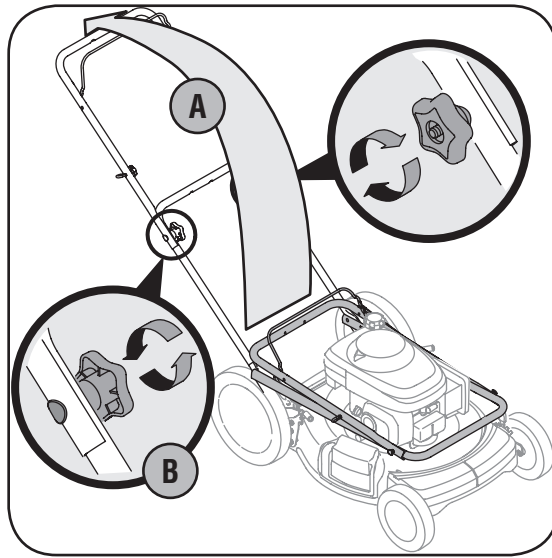

Figure 3-1: Unfold handle, tighten hardware.
- a. Pull up and back on upper handle as shown in Figure 3-1. Make certain the lower handle is seated securely into the handle mounting brackets. Do not crimp cable while lifting the handle up.